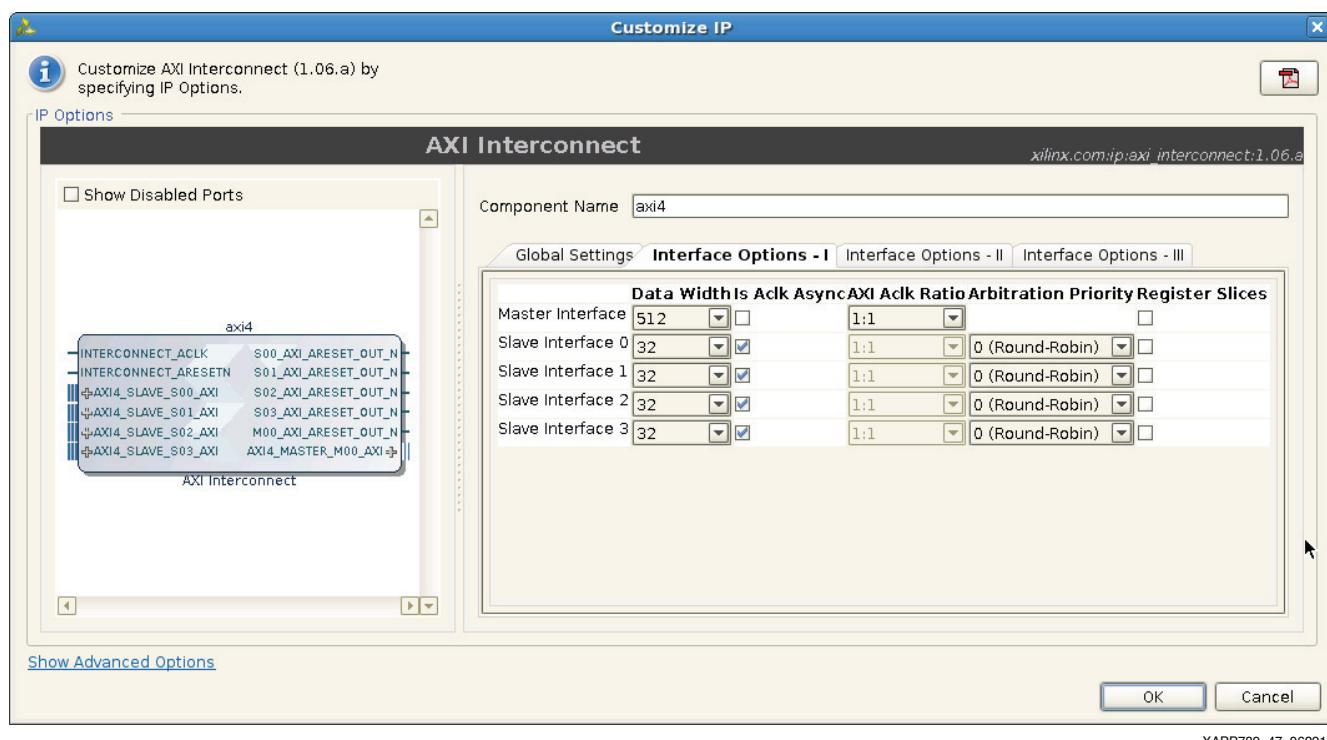

Figure 47: AXI Interconnect Width and Clock Settings
36. Click the **Interface Options - I** tab of the AXI Interconnect IP Configuration and make the following settings (Figure 47):